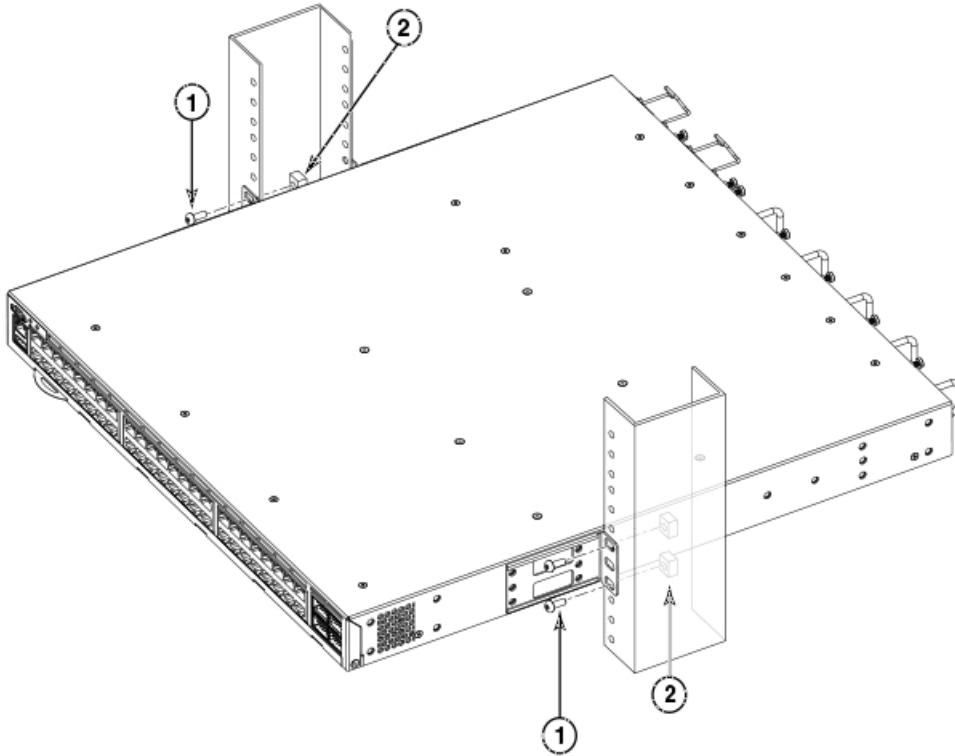

Figure 20. Attaching front brackets to a rack
1. Position the device in the rack, as shown in Figure 20 on page 34, providing temporary support under the device until the rack kit is fully secured to the rack.